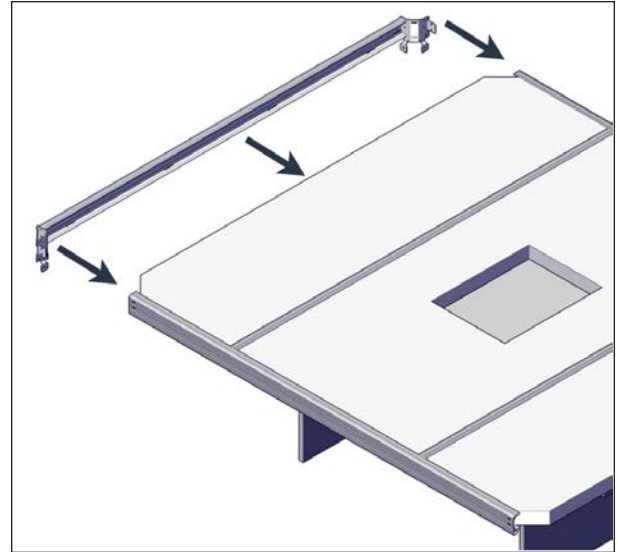

FIGURE 26: CORNER AND C- CHANNEL INSTALLATION
6. On one end of the cover, slide one corner brackets and C- channel assembly, see Figure 26. It is recommended to slightly engage the top flange before the bottom when sliding the C-Channel onto the foam panel.